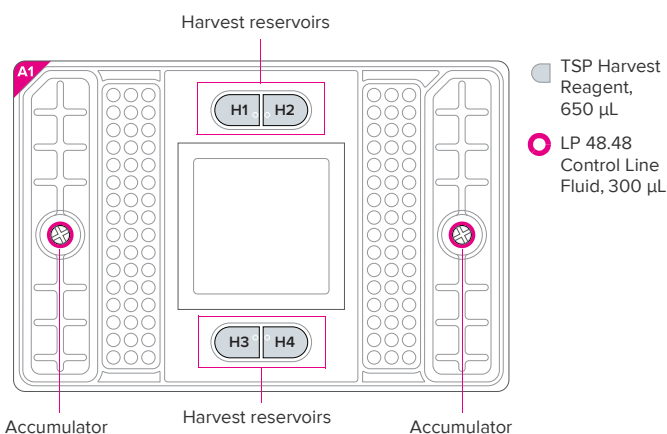

Figure 1. Priming map for the LP 48.48 IFC
- Inject LP 48.48 Control Line Fluid into each accumulator on the IFC (see Figure 1).
- Place the IFC on a flat surface and pipet 500 μL of TSP Harvest Reagent into each of the H1, H2, H3, and H4 harvest reservoirs (see Figure 1).